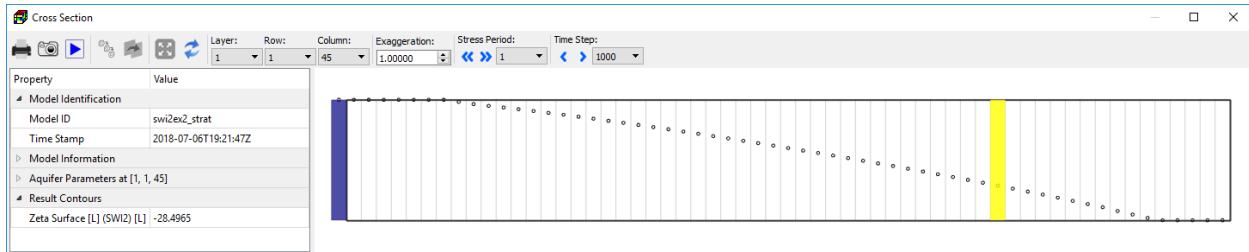

Figure 126. The position of zeta surface is marked with open circles on the cross section
- The calculated interface elevation (Zeta surface elevation) are stored in the output file “modflow.swi2zeta”. On the Map Viewer, the calculated zeta surface elevation may be used to create contour maps. On the cross-section window, the position of the zeta surface is marked with open circles (see Figure 126 for an example.) The display settings of the markers can be adjusted with the controls in *Zeta Marker on Cross Section* group of the Settings window.